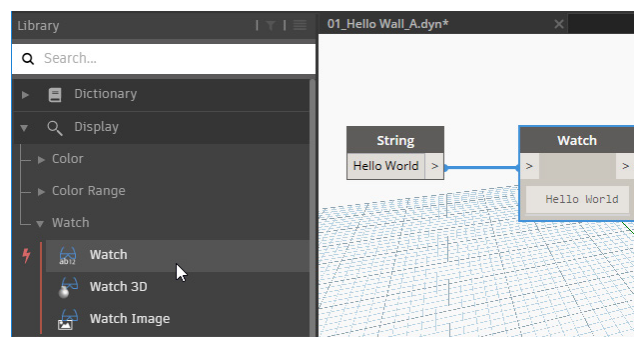

Figure 13
5. Drag it to the right of the **String** node and then wire the output of the **String** to the input of the **Watch** (see Figure 13). (If necessary, click the Run button at the bottom).